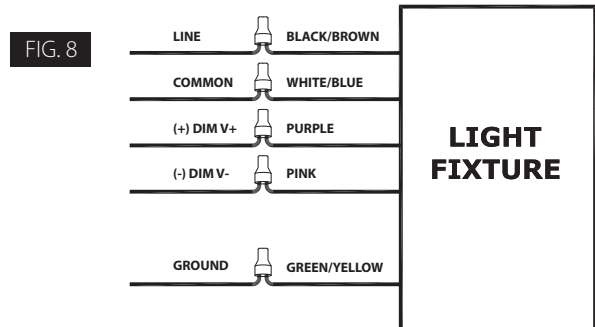

FIG. 8
4. Feed supply wires from the **Pole** to connect to the **Arm**. Make appropriate wire connections per NEC in an approved enclosure (*Fig. 8*).
Universal voltage driver permits operation at 120V through 277V, 50 or 60 Hz. For 0-10 dimming, follow the wiring directions as shown in Fig. 8.